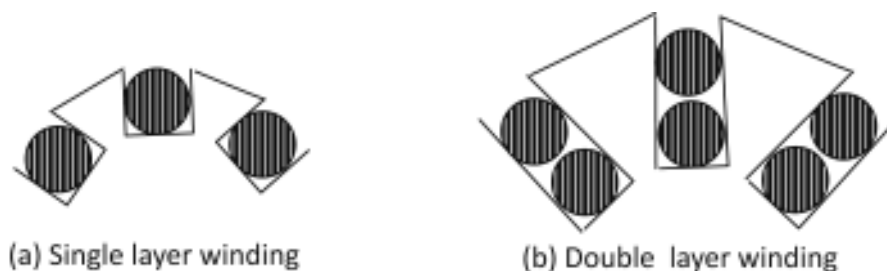

Fig.3.12 - Single layer and double layer winding
3.14 SINGLE LAYER WINDING : In this type of winding, as shown in Fig. 3.12 (a), each slot contains only one coil side. It means a coil occupies two complete slots. The number of coils in the machine is equal to half the number of slots in the stator, or rotor and armature.
3.15 DOUBLE LAYER WINDING : In this type, as shown in Fig. 3.12 (b), each slot contains two coil sides, housed one over the other. The number of coils is equal to the number of slots in the stator and armature.
3.18 CONCENTRIC WINDING : Concentric windings are single layer windings. This winding has two or more than two coils in a group and the coils in each group have the same centre. In each group, the coil pitch is not equal and therefore do not overlap each other, as shown in Fig. 3.12. The coil span of the individual coils is different. The coil span is more than a pole pitch while the span of others is equal to or less than the pole pitch. These windings are so designed that the effective coil span of the winding is equal to that of a winding as a full pitch winding with some of the coils having a span greater than a pole pitch, some with less than a pole pitch but an effective span which makes the winding behave as if it had full pitched coils.